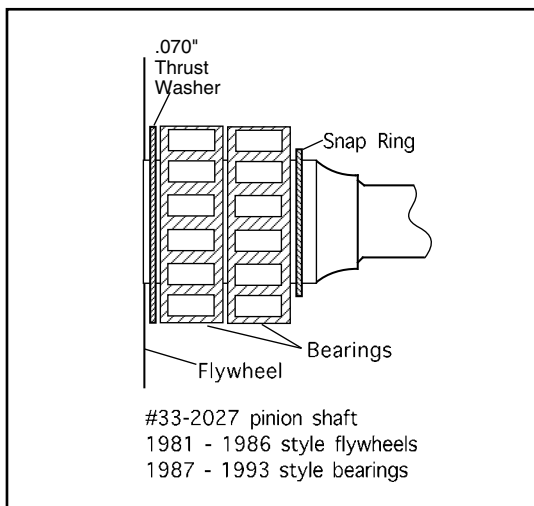

Figure 5
2. 1981 to 1986 big twin flywheels and S&S pinion shaft 33-2027—extra .070" main bearing thrust washer supplied in kit is normally used. Typical washer and bearing arrangement - .070" washer against flywheel, bearings, and snap ring. **See Figure 5.**